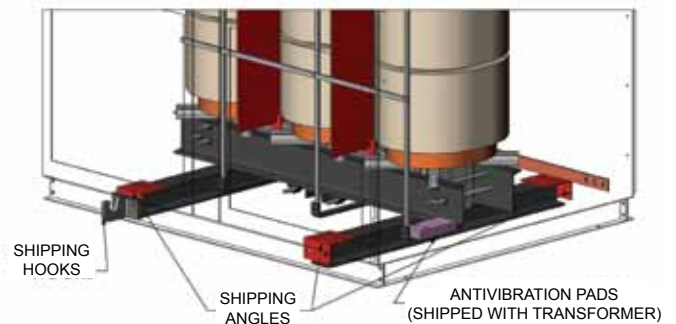

FIGURE 9
- (1) It is recommended that anti-vibration pads or other vibration isolation devices be present when installing dry-type transformer. Some dry-type transformers may have pre-installed anti-vibration pads or other vibration isolation devices. Most of the time the anti-vibration pads are provided with the dry-type transformers and need to be installed on site. When installing the anti-vibration pads beneath transformer base beam, ensure that lifting the transformer by core & coil only. If the enclosure is provided and attached to the core & coil by shipping angles, make sure that the shipping hooks and shipping angles are removed in all locations (see figure 9 and 10) and then lift the transformer by core & coil only to install the anti-vibration pads (or other vibration isolations required per design).
- (2) Cable type, size and entry location shall confirm to Local Electrical Code.
- (3) Terminals and terminal board shall not be used to support the weight of supply or load cables.
- (4) Maintain the appropriate clearance between supply cables and live parts of transformer based on system voltages. (refer to section 10 of Field Testing)